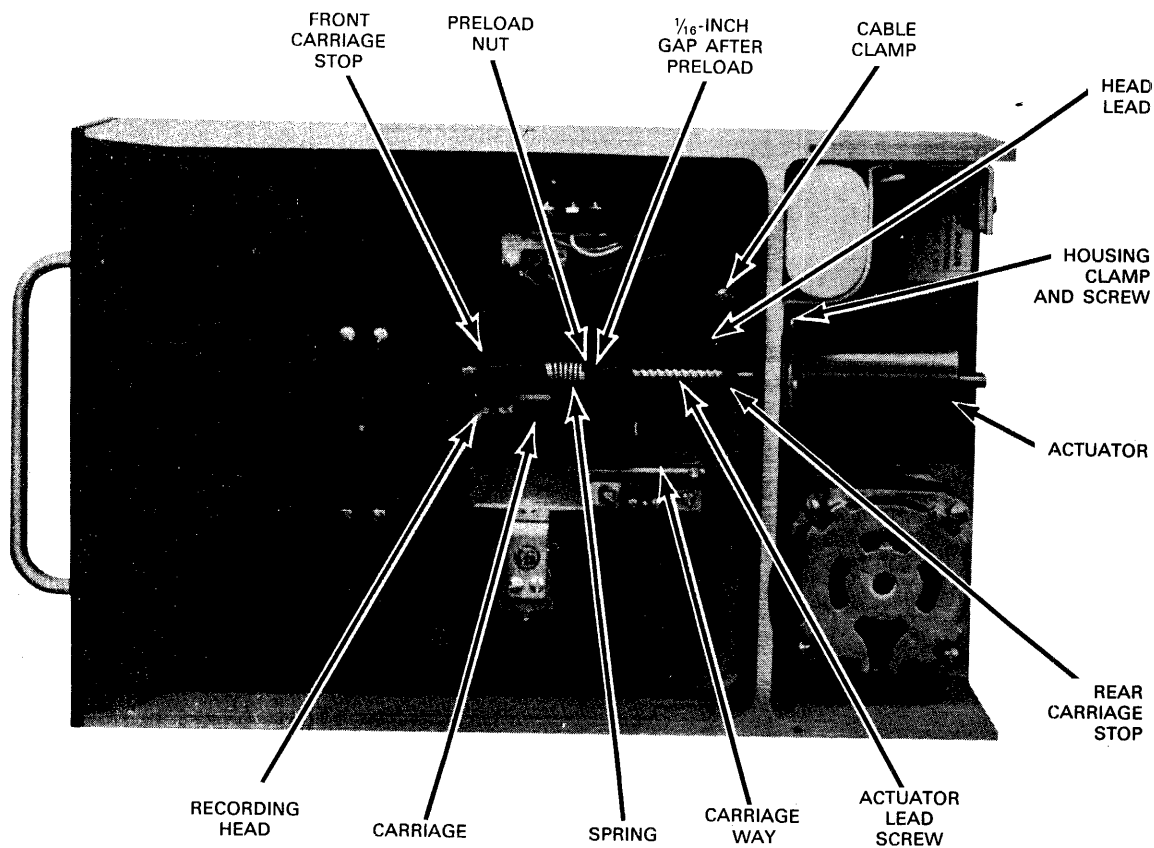

Figure 5-24. Head Carriage and Head Position Actuator Removal and Replacement
1. Loosen front carriage stop set screw (Figure 5-24) and remove stop.
1. Insert head lead and connector through baseplate access hole, and install carriage on way (Figure 5-24).